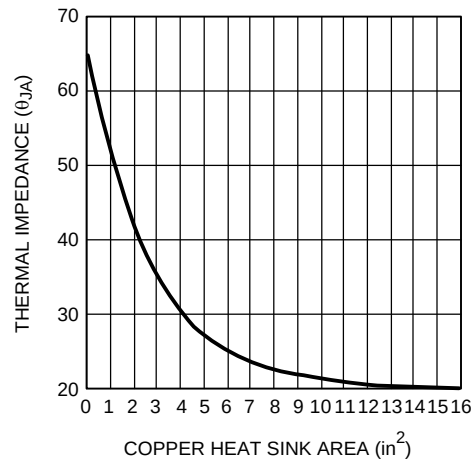

Figure 31. Thermal Resistance (Typ) for 5 Lead DDPAK/TO-263 Package Mounted on 1 Ounce of Copper
The DSDPAK/TO-263 package has excellent thermal characteristics. To minimize thermal impedance, its exposed die attach paddle should be soldered to a circuit board copper area for good heat dissipation. Figure 31 shows typical thermal resistance from junction to ambient as a function of the copper area. The DDPAK/TO-263's exposed die attach paddle is electrically connected to the V_{EE} power supply pin.
If a heat conductive copper plane has perfect thermal conduction (heat spreading) through the plane's total area, the temperature rise is inversely proportional to the total exposed area. PCB copper planes are, in that sense, an aid to convection. These planes, however, are not thick enough to ensure perfect heat conduction. Therefore, eventually a point of diminishing returns is reached where increasing copper area offers no additional heat conduction to the surrounding air. This is apparent in Figure 31. 2 oz copper boards will have decrease thermal resistance providing a better heat sink compared to 1oz. copper. Beyond 1oz or 2oz copper plane areas, external heatsinks are required. Ultimately, the 1oz copper area attains a nominal value of 20°C/W junction to ambient thermal resistance (θ_{JA}) under zero air flow.
5. θ_{JA} as a function of copper area in square inches is shown in Figure 31. Choose a copper area that will ensure the specified $T_{J(MAX)}$ for the calculated θ_{JA} . The maximum value of junction to ambient thermal resistance, θ_{JA} , is defined as:
4. Finally, choose the minimum value of copper area from Figure 31 based on the value for θ_{JA} .
Examining the Copper Area vs. θ_{JA} plot (see Figure 31) indicates that a thermal resistance of 21.4°C/W is possible with a 8–10in² plane of one layer of 1oz copper. Other solutions include using two layers of 1oz copper or the use of 2oz copper. Higher dissipation may require forced air flow. As a safety margin, an extra 15% heat sinking capability is recommended.